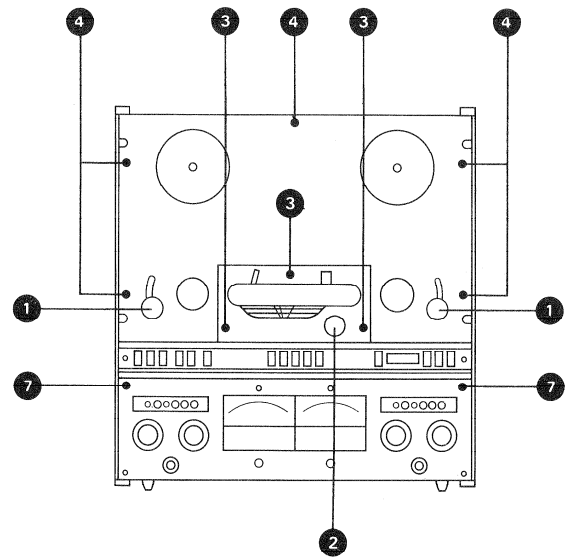

Fig. 2.2.-5
- Unscrew 7 screws (fig. 2.2.-4).
#### 2.2.6. Removal of the front panel (fig. 2.2.-5)